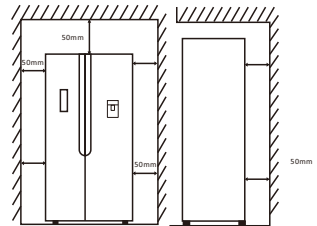

Fig.1
- Ensure sufficient spacing is provided for the appliance to be installed. Leave space on both sides (5cm), back (5cm) and above the appliance (5cm) to ensure proper ventilation and door opening. See fig. 1&2